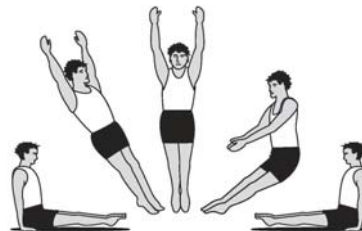

Figure 8: seat drop - half twist - seat drop
Step 3: Perform as in Step 2. Just before contacting feet with the trampoline bed, lift your legs to land in a sitting position (see Figure 8).